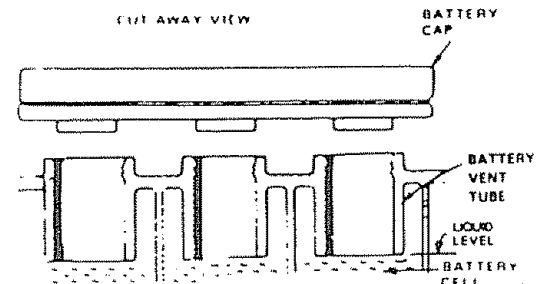

FIGURE 3
- Fill each cell with battery acid. Add the acid until it reaches the bottom of the vent tubes (Fig. 3). Do not add the acid beyond this level or the additional acid can come out when the battery is charged.